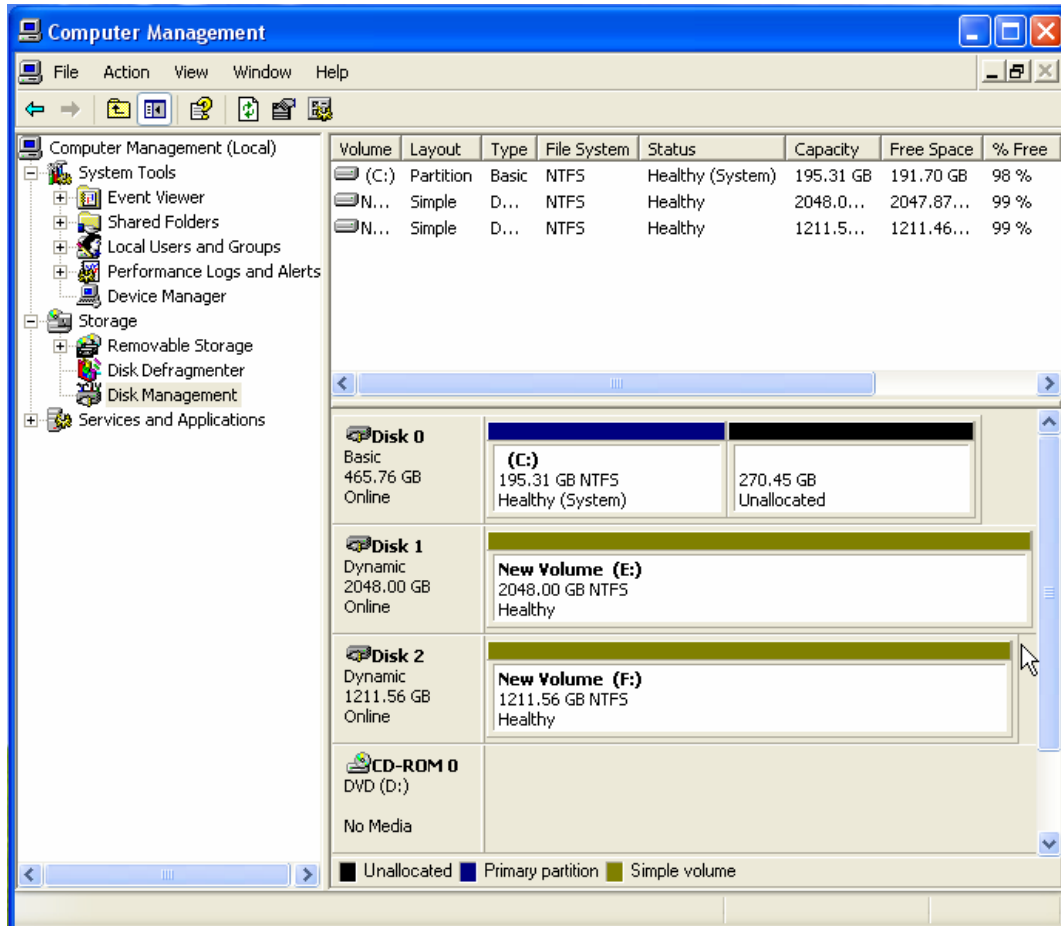

Figure 5-25
- 12) Click the **OK** button to accept the **Foreign Disk Volumes** dialog. Assuming that the TeraPac 3 array has been formatted (as will be the case if it was shipped from MaxVision), the array will automatically be assigned drive letters as illustrated in Figure 5-25. In this case, the array is ready to use. (If you've recently re-built the array and it is not automatically assigned a drive letter, you will have to format the array at this point – this is just like formatting a regular hard drive.)